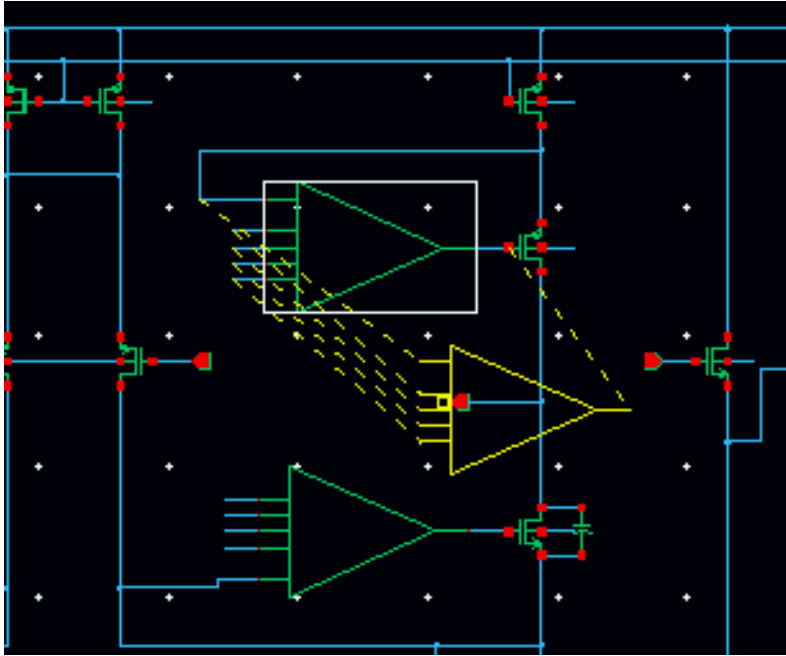

Figure 7-1 Instance option unchecked so only directly connected wire segments will be rerouted
- When the *instance* option **is not checked**, *only* those wire segments that are directly connected to the selected instance will be rerouted (as shown in Figure 7-1 on page 473).